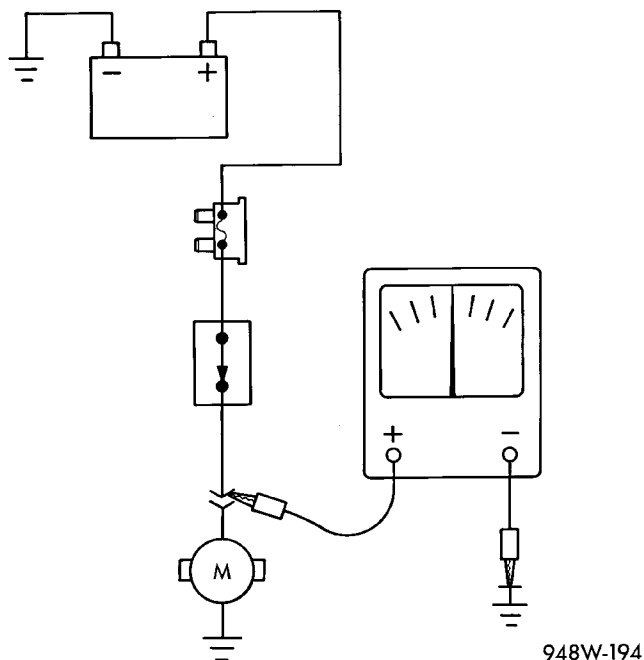

Fig. 10 Testing for Voltage
(1) Connect the ground lead of a voltmeter to a known good ground (Fig. 10).
(2) Connect the other lead of the voltmeter to the selected test point. The vehicle ignition may need to be turned ON to check voltage. Refer to the appropriate test procedure.